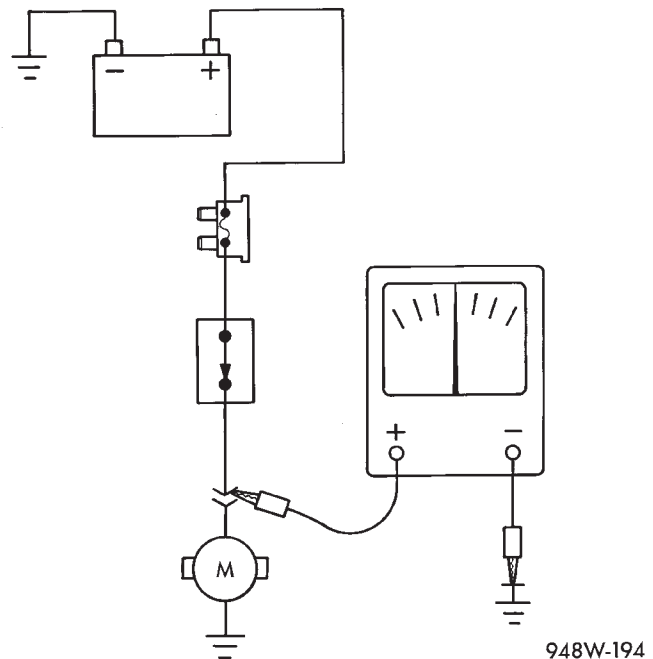

Fig. 9 Testing for Voltage
(1) Connect the ground lead of a voltmeter to a known good ground (Fig. 9).
(2) Connect the other lead of the voltmeter to the selected test point. The vehicle ignition may need to be turned ON to check voltage. Refer to the appropriate test procedure.